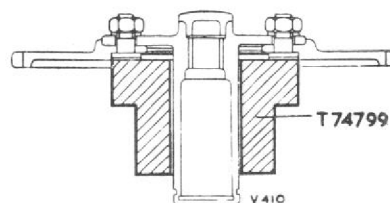

Fig. 4. Using vice block T74799 to tighten nuts on the air compressor and tachometer drives
1. As the difference in design between the 48 Mk. 1 and 48 Mk. 2 is considerable, the wheelcase for each mark is dealt with separately. The gear arrangement for the 48 Mk. 1 and 48 Mk. 2 is respectively shown in Fig. 4 and 12 in Chapter 24D. Therefore, when considering either wheelcase the figures in parenthesis, given in the text, will relate to the appropriate illustration.
- (2) Place the assembly on vice block T74799 (fig. 4); hold the vice block firmly in a vice and tighten the nuts; bend up the tab-washers to lock the nuts.
- (3) Remove the assembly from the vice block.